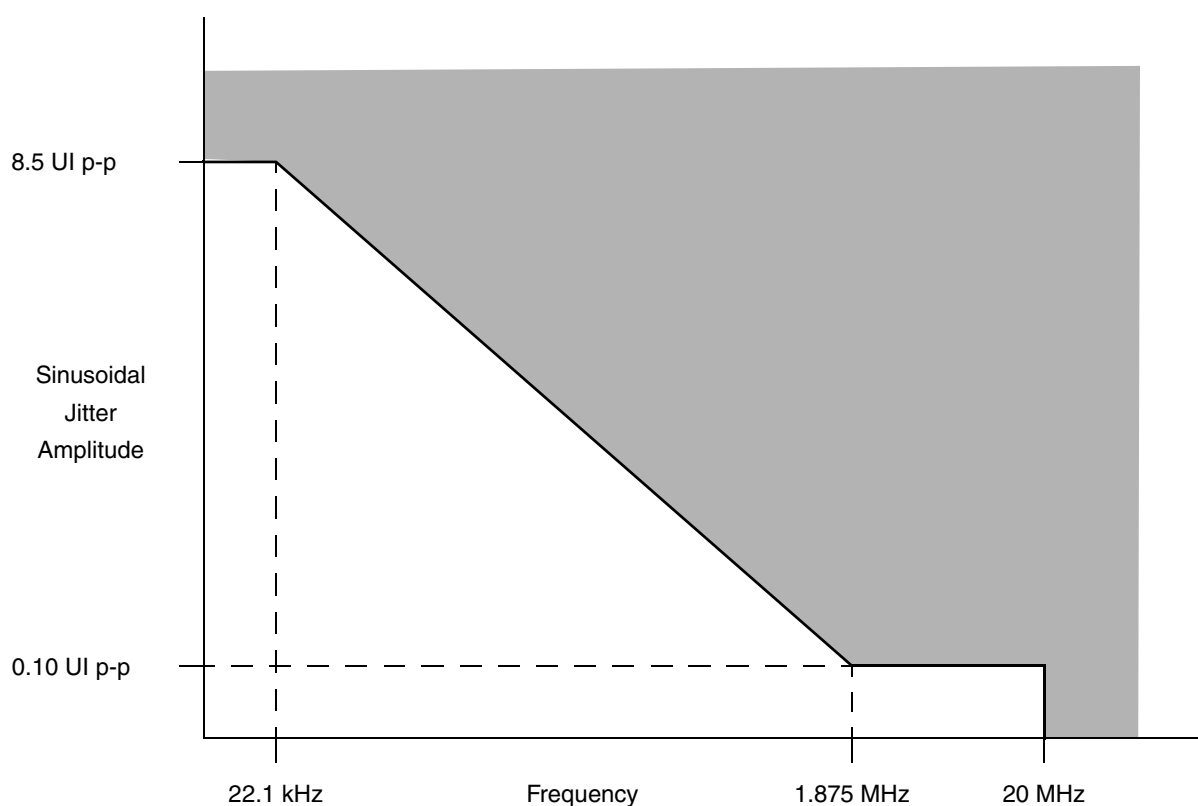

Figure 60. Single Frequency Sinusoidal Jitter Limits
1. Total jitter is composed of three components: deterministic jitter, random jitter, and single frequency sinusoidal jitter. The sinusoidal jitter may have any amplitude and frequency in the unshaded region of Figure 60. The sinusoidal jitter component is included to ensure margin for low frequency jitter, wander, noise, crosstalk and other variable system effects.
Figure 60 shows the single frequency sinusoidal jitter limits.